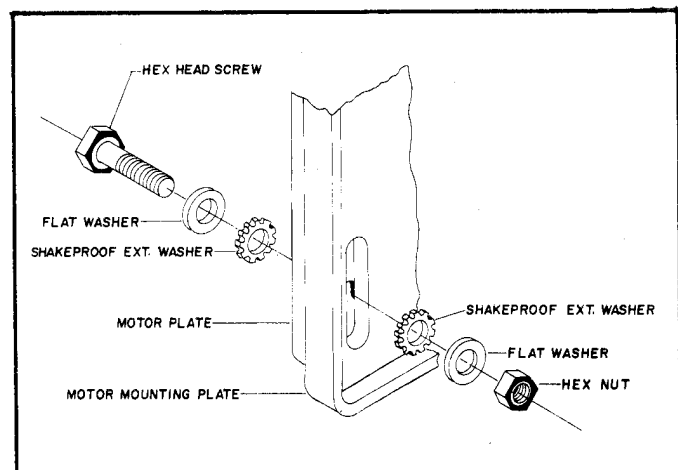

Fig. 6
3. Fig. 6, illustrates the proper relationship of the motor mounting hardware. **CAUTION:** The proper grounding of the motor to prevent shock hazard, depends on the use of the shake proof lockwashers in the manner shown in Fig. 6.